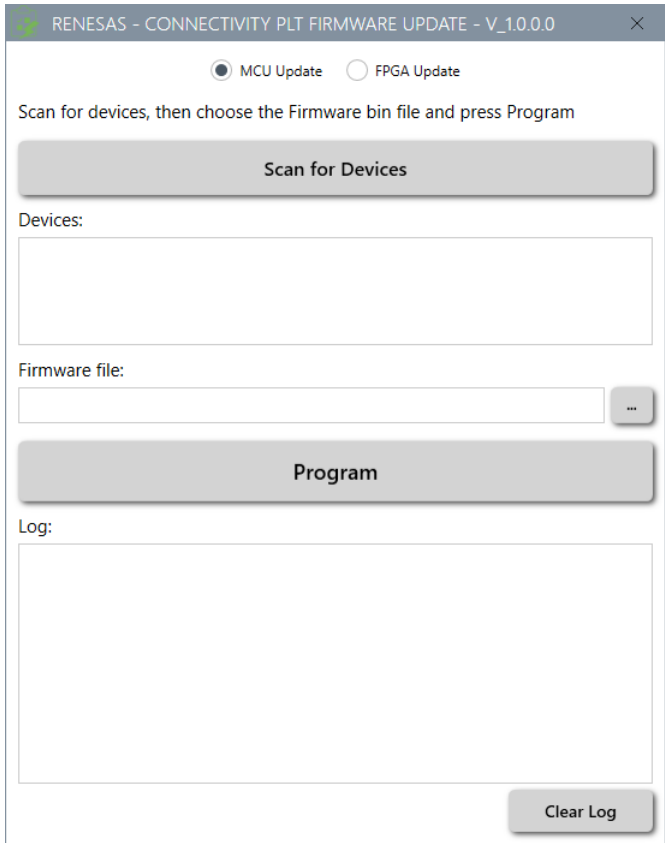

Figure 150. Firmware update application initial screen
1. In the top of **Renesas – Connectivity PLT Firmware Update** window, select **MCU Update**, and then click **Scan for Devices** (Figure 150).